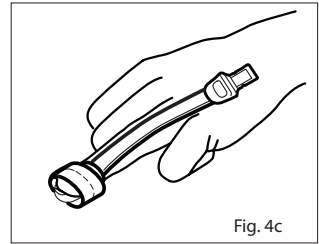

Fig. 4c
4. Refer to **Fig. 4c**. Check the sensor to verify correct positioning and reposition if necessary.